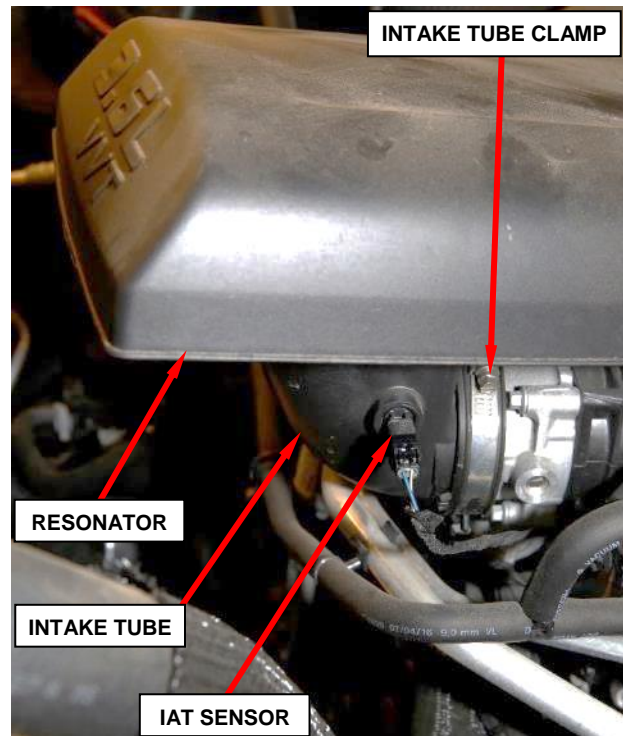

Figure 2 – 3.6L Air Intake Tube and Resonator Assembly
- a. Disconnect the Inlet Air Temperature (IAT) sensor (Figure 2).
- b. Loosen the clamp securing the resonator air intake tube to the throttle body (Figure 2).